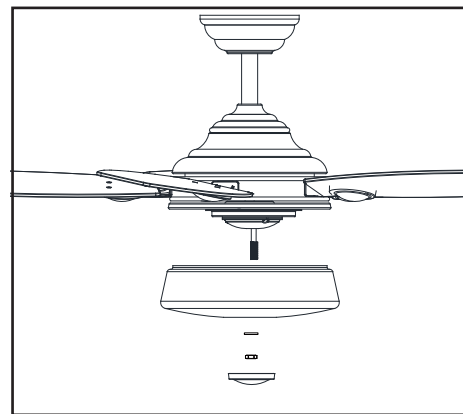

Figure 16
5. Remove the rubber washer, hex nut and finial from the threaded nipple of the light kit fitter assembly. Position the glass bowl over the threaded nipple. Re-install the rubber washer, hex nut and finial to the threaded nipple to secure the glass bowl properly. (Figure 16)